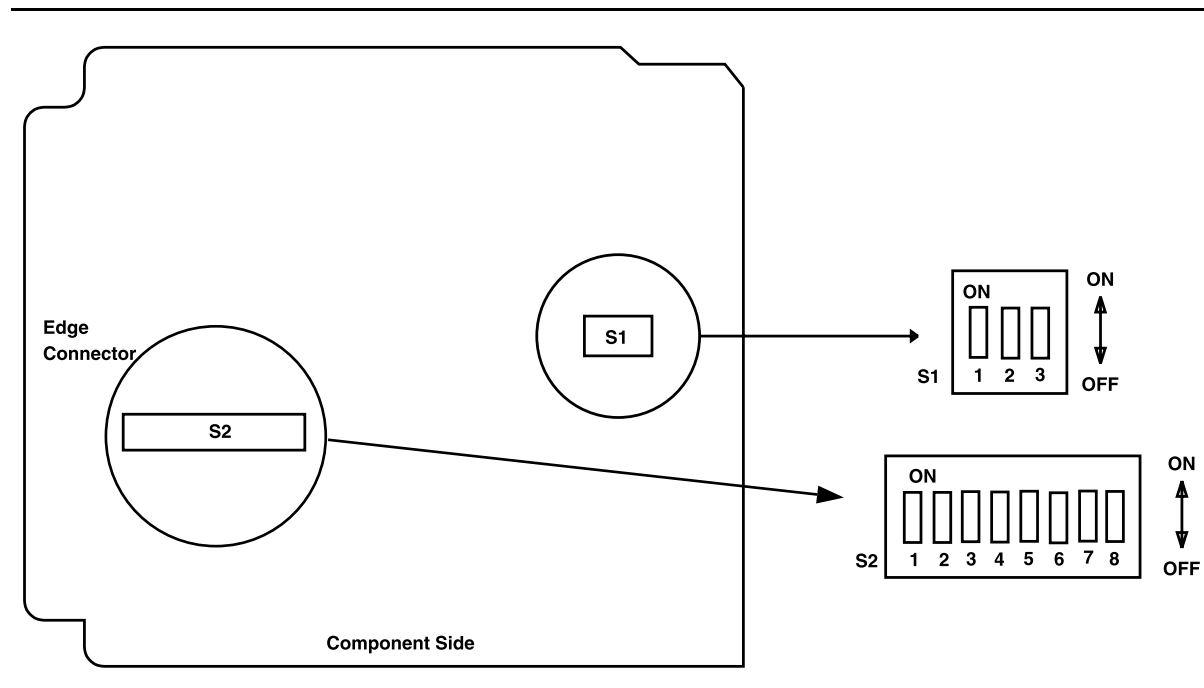

Figure 1 – BBG8/BBG8B SYSCTL Option Settings
3. Remove and inspect circuit pack being replaced for proper option switch settings. Set option switches on the replacement **BBG8/BBG8B SYSCTL** the same as the original. See Figure 1.
5. Set all **SYSCTL** switch **S1** sections **S1-1**, **S1-2**, and **S1-3** to **OFF**, to set the product (shelf) type. See Figure 1.